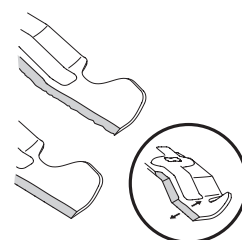

Figure 24
5. To properly sharpen the cutting blade, remove equal amounts of metal from both ends of the blade along the cutting edges, parallel to the trailing edge, at a 25° - to 30° angle. Always grind each cutting blade edge equally to maintain proper blade balance. See Figure 24.